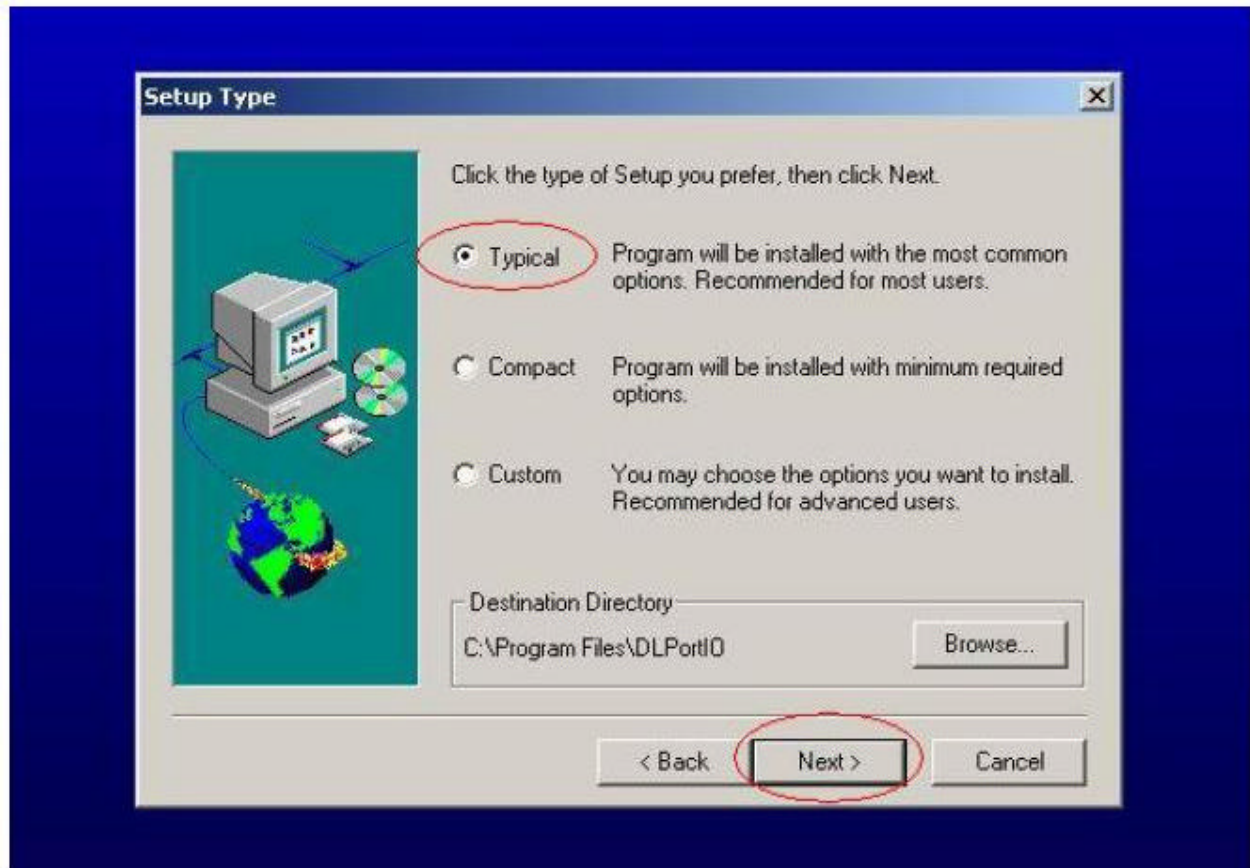

Fig. 0.3
0.3 Choose “ Typical “ t hen press “ Next “ , see Fig. 0.3